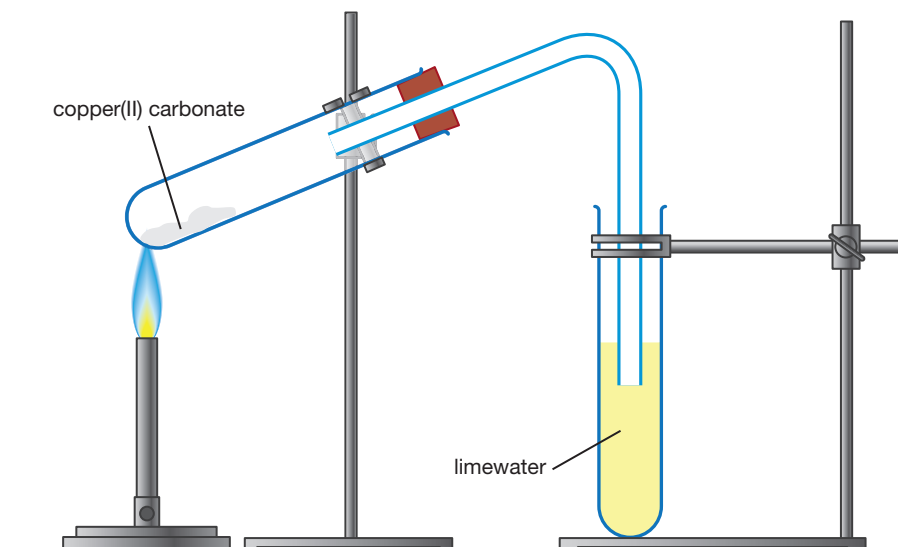

Figure 5.2.15
- 3 Use the bosshead and clamp to secure the test-tube on an upward angle with the delivery tube pointing down as shown in Figure 5.2.15.